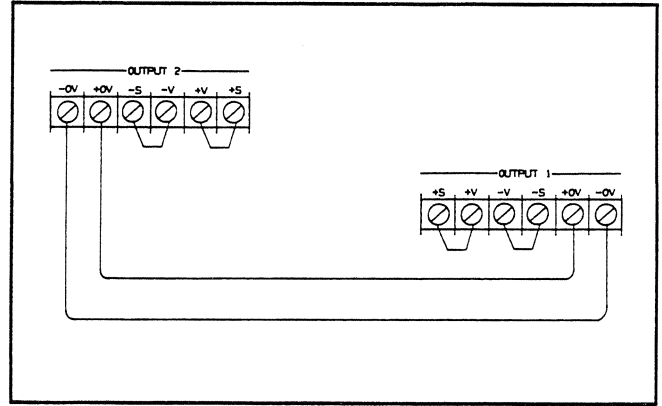

Figure 3-11. OV External Trip Test Connections
- Turn off the supply and connect the OV terminals of all outputs in parallel noting proper polarity. Figure 3-11 shows two outputs connected in parallel.